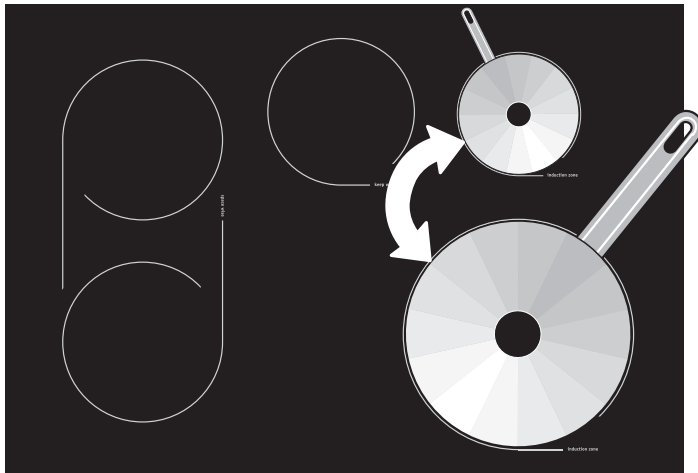

Figure 3
**POWER SHARING TIPS:** Remember to set the power level for the food item you wish to maintain last (See Fig. 3).